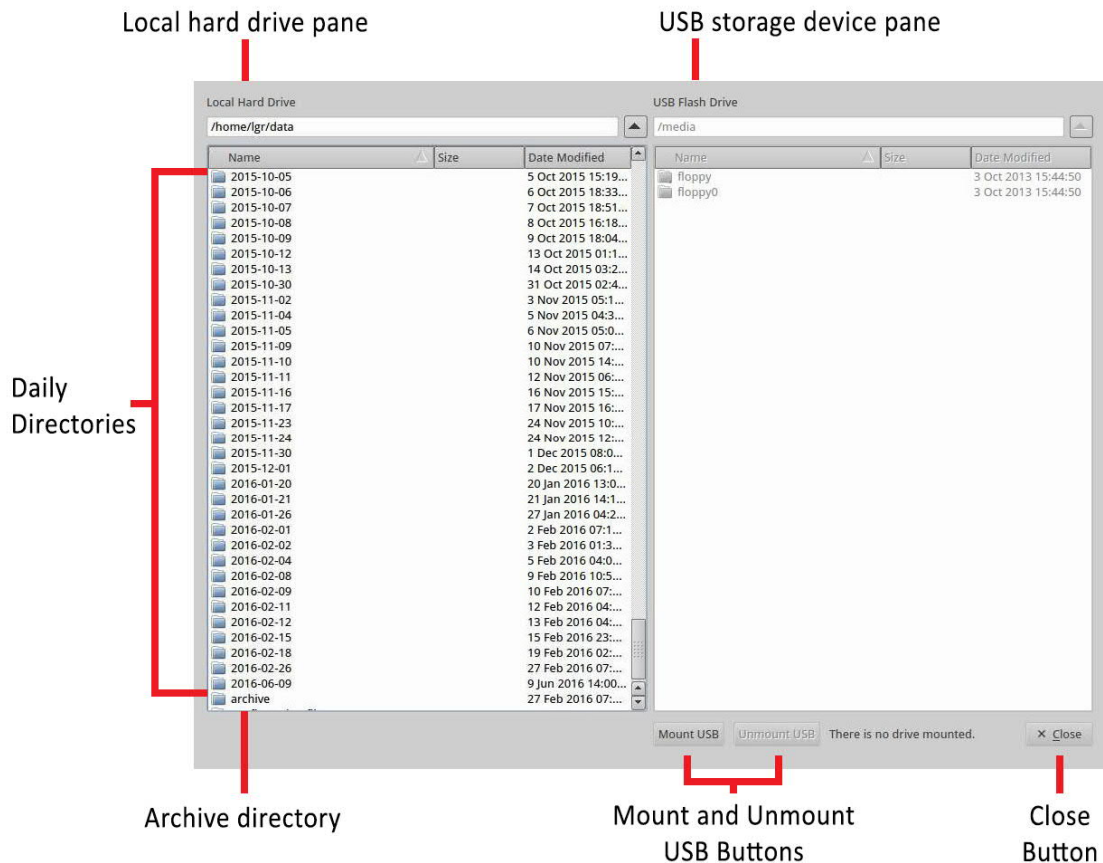
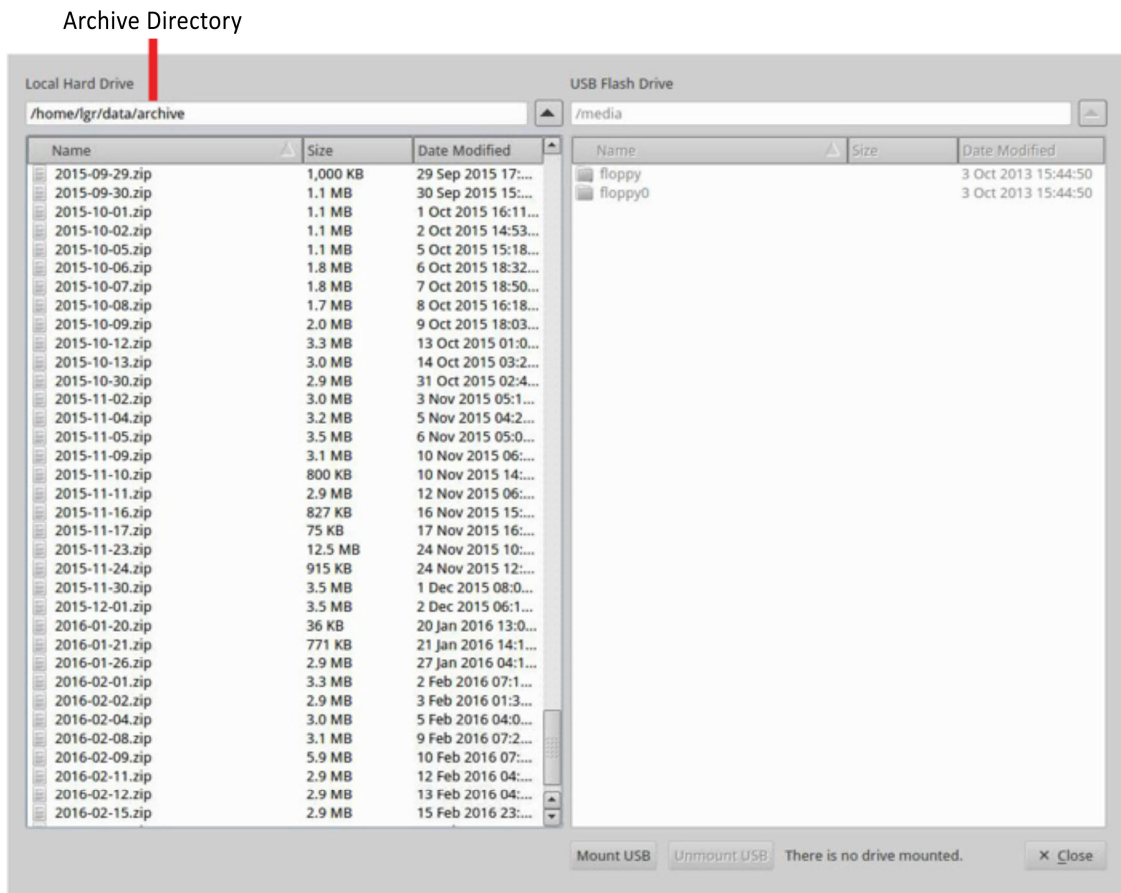

Figure 34: File Transfer Menu: Local Hard Drive (left pane) and USB Flash Drive (right pane)
Figure 36: Archive Directory
1. Click the Files button on the *User Interface Control Bar* (Figure 27) to access the *File Transfer Menu*. (Figure 34)
3. Click on the Mount USB button. (Figure 34)
The local hard drive (Figure 34) creates a daily folder containing new data files for each day that the analyzer operates.
The local hard drive (Figure 34) creates an archived folder containing zipped files organized by date. (Figure 36)
To access the archived files, double-click the Archive folder. (Figure 34)
Examples of files in the archive directory are shown in Figure 36.